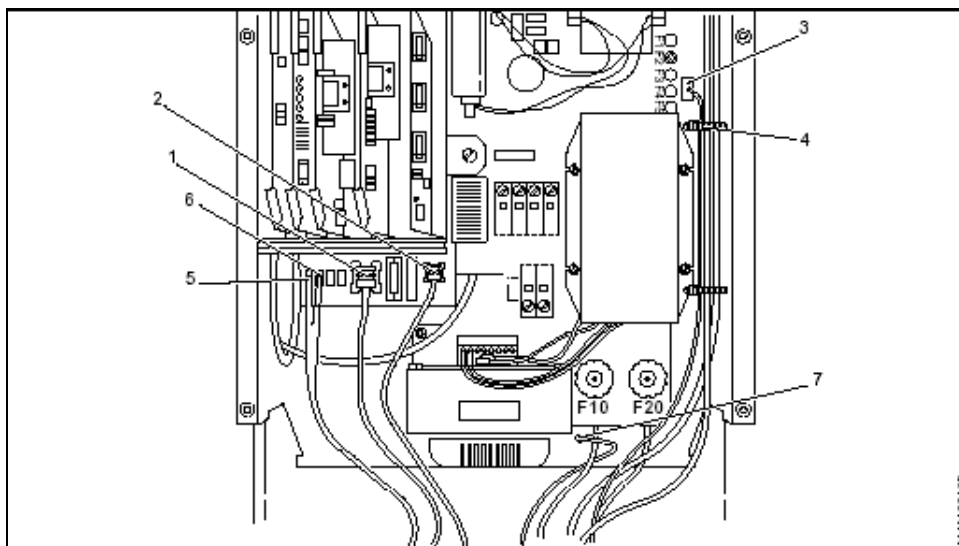

Fig. 1 Generator
- 1) Get access to the connector X8 No: 2 in Figure 1) on the backplane D700 of the generator.